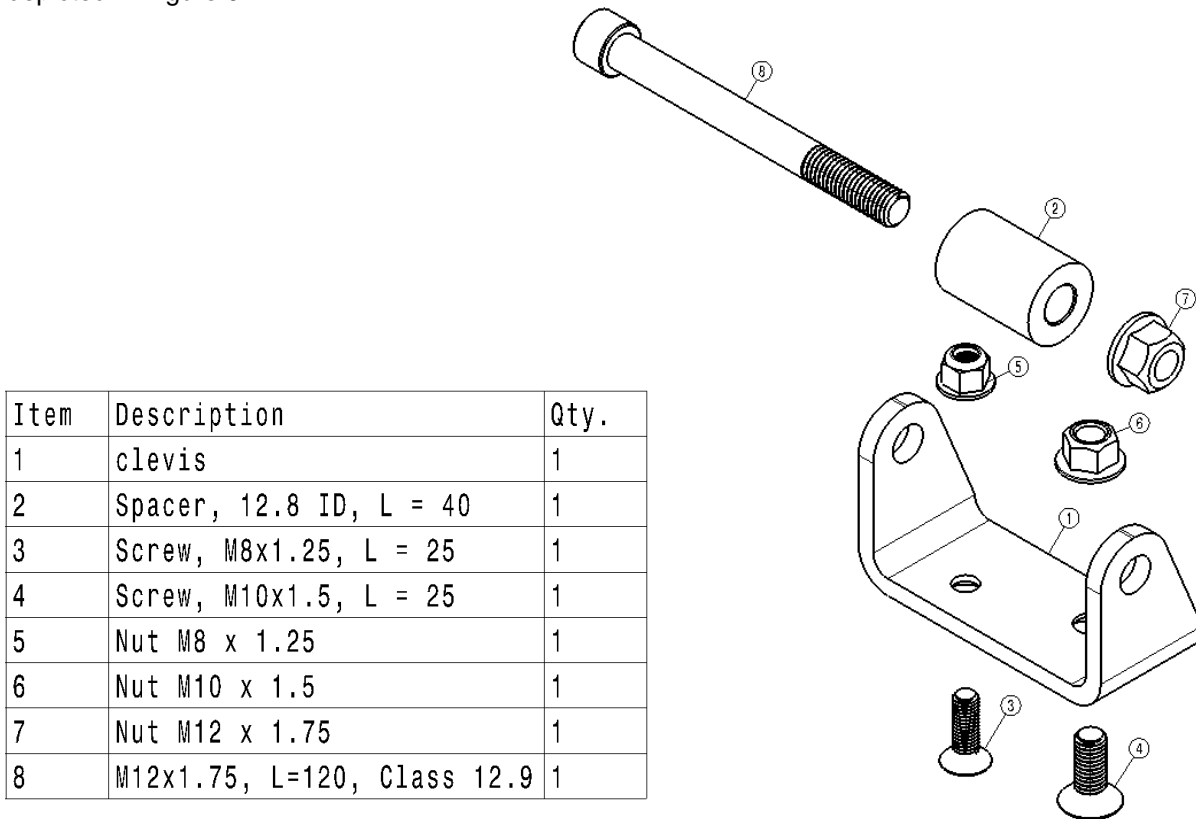

Figure 9 – Lower mount offset bracket
- O. A mount kit is included to allow the lower shock mount to be offset away from the frame. This kit is depicted in Figure 9.
- Q. Install the clevis from the mount kit in Figure 9 using the M8 screw and nut. The position of the clevis should allow the shock lower mount to be offset outwards towards the wheel. Use the M8 screws and nuts for both driver and passenger sides. Torque down the fasteners to 19 lb•ft (25 N•m)
- V. Install the clevis from the mount kit in Figure 9 using the M8 screw and nut. The position of the clevis should allow the offset be towards the wheel. Torque down fastener to 19 lb•ft (25 N•m).